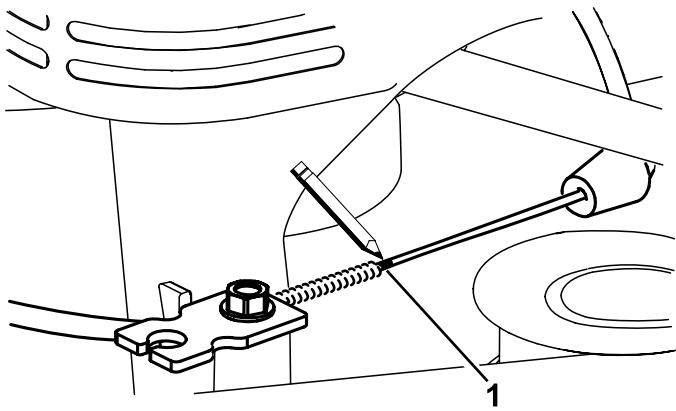
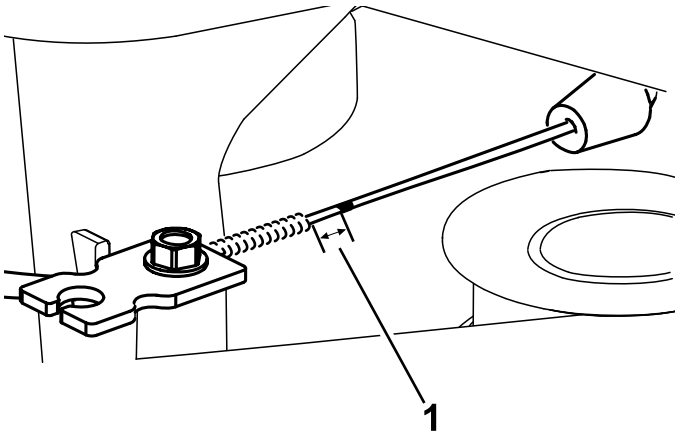

Figure 45
Figure 46
7. Mark the brake cable (Figure 45), then adjust the jacket until there is approximately 11 mm (7/16 inch) of slack (Figure 46).